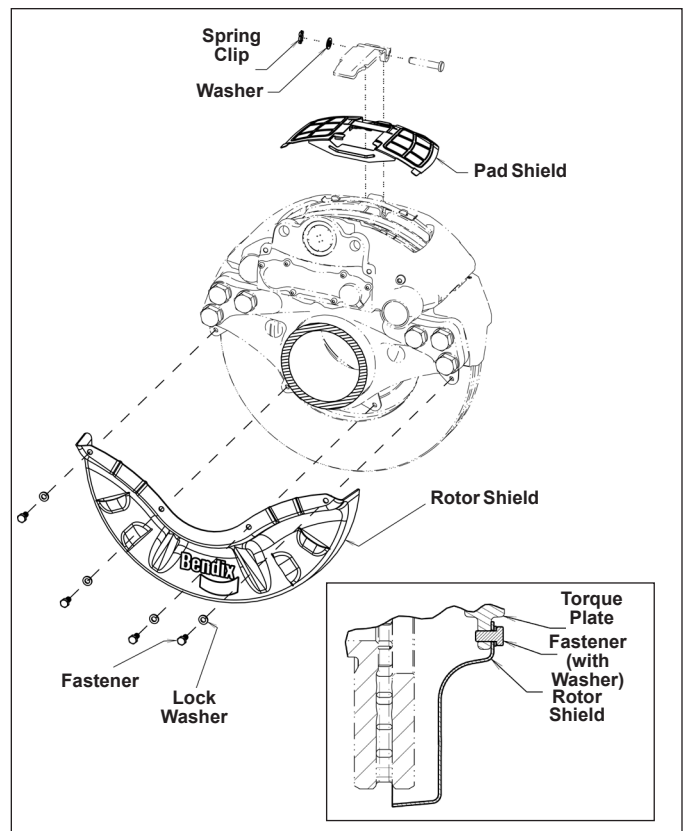

Figure 31 – Trailer Axle Exploded View with Inset Showing Rotor Shield Installation
4.1.4 Trailer Axle Rotor Shields (See Figure 31). Position the rotor shield with *the torque plate between the shield and the rotor*. With one (supplied) lock washer in place on each cap screw, pass the screws through the shield before mounting onto the threaded torque plate holes. Torque the cap screws to 24 ft-lbs (32.5 N•m).